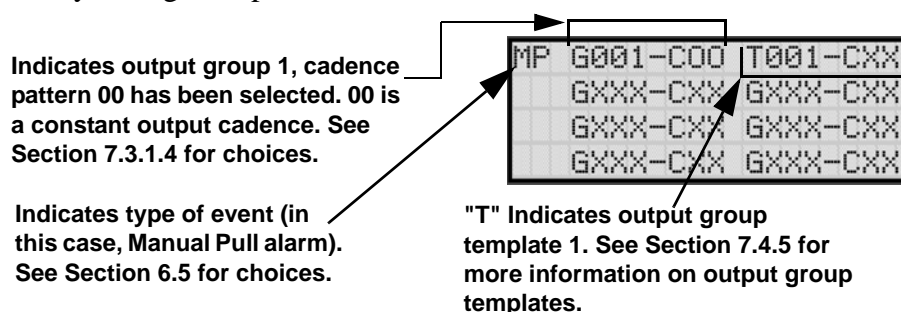

Figure 7-3 Selecting Output Groups/templates and Cadence Patterns for a Zone Event
6. From the next screen, a list of 8 event types will display. Select the event type you want to program. A screen similar to the one shown in Figure 7-3 will display. Press **ENTER**.
8. Select options for each event that could occur in this zone. Figure 7-3 is a complete example of how you might map a zone.